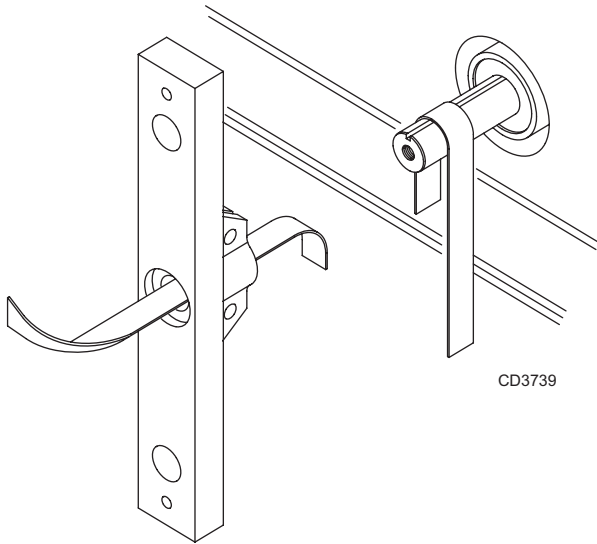

Figure 15.
1. Using emery cloth (220 or finer), remove surface rust, Loctite and foreign material from hub, splined gearbox, vertical shaft, and crossbar as shown in Figure 15.